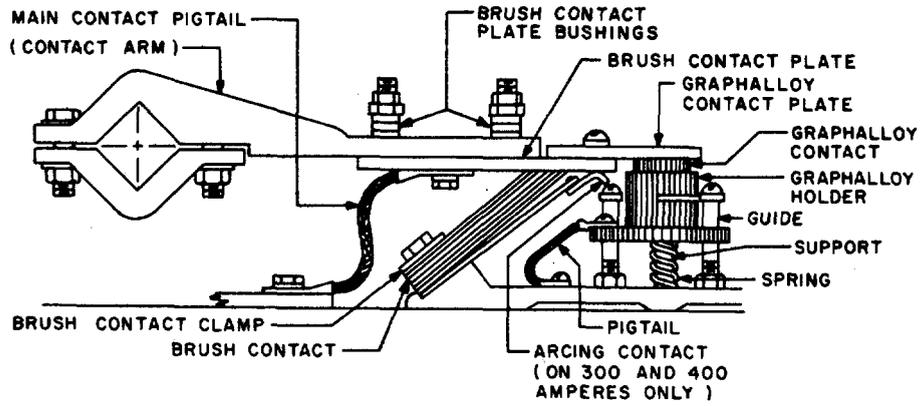

Fig. 9—Main Contact Structure of 200-, 300-, and 400-Ampere Contactors
3.10 Graphalloy Contact—Fig. 9 and 10
3.11 Brush and Graphalloy Contact Plates—Fig. 9 and 10